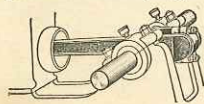

Figure 11.
**Fourth.** Open needle valve on the mixer two full turns to the left, close the air damper and then turn the flywheels to the right one-half turn, or until the crank is on the outer dead center, as shown in Figure 11.